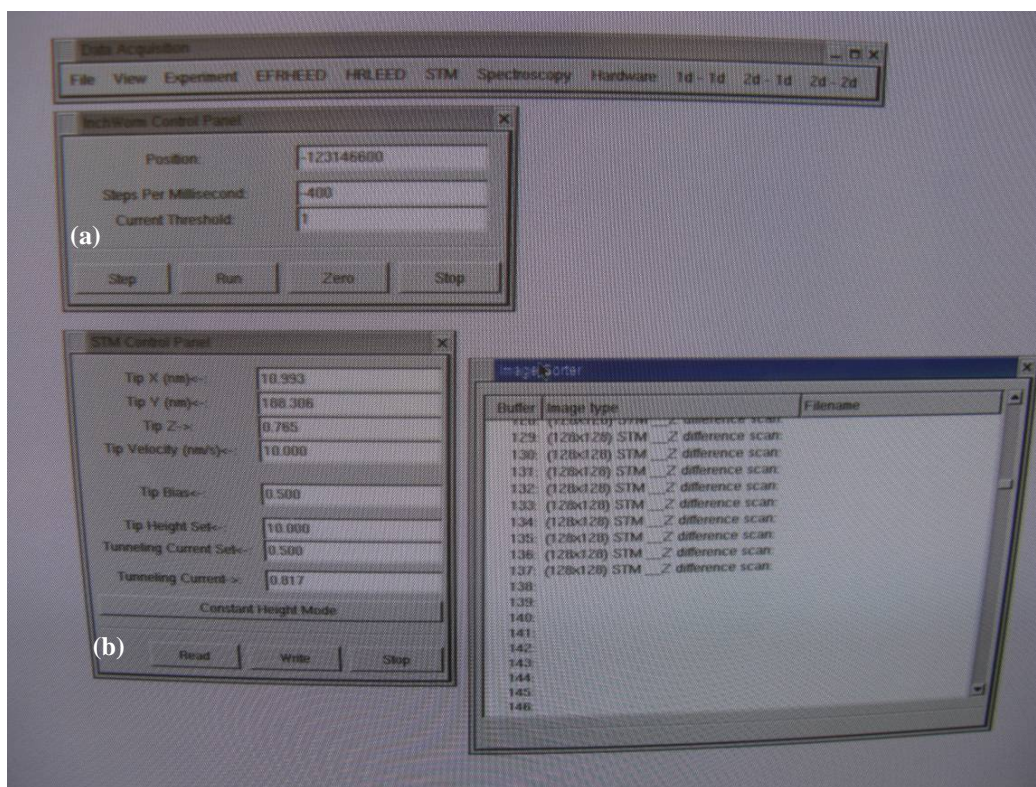

Figure 3.3 Interface of the STM software.
8. In the computer software, open the 'InchWorm Control Panel' (Fig. 3.3(a)) by choosing 'Hardware' -> 'InchWorm Control Panel' in the menu.
12. While the tip is approaching, open the 'STM Control Panel' (Fig. 3.3(b)) by choosing 'Hardware' -> 'STM Control Panel' in the menu.